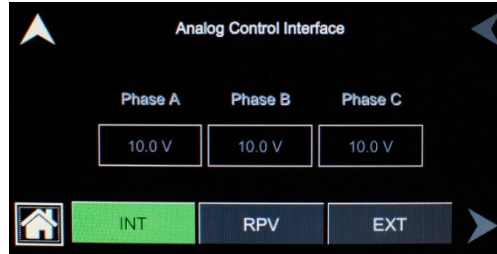

Figure 4-41. CONTROL INTERFACE Menu, ANALOG Sub-Menu
ANALOG	Selects the reference that determines the output voltage waveform and amplitude; the default is INT. Refer to Figure 4-41. The options are as follows: INT: Selects programming of the output voltage waveform and amplitude by the internal controller reference. RPV: Selects programming of output voltage amplitude with an external analog interface signal, with the waveform being set by the internal controller reference. A Voltage field is provided for entry of DC input signal range: user-selectable maximum range value within 2.5 VDC to 10 VDC, for full-scale RMS of internally programmed output voltage waveform EXT: Selects programming of output voltage waveform and amplitude with an external analog interface signal. A Voltage field is provided for entry of AC or DC input signal range: 0V to user-selectable maximum range value within 2.5 V(PK) to 10 V(PK), corresponding to maximum range of 1.77 V(RMS) to 7.07 V(RMS), for zero to full-scale RMS output voltage; with AC waveform, from 16 Hz to 5 kHz (option dependent); PHASE: Selects the full-scale of the analog programming voltage for each output phase (Phase-A/B/C).